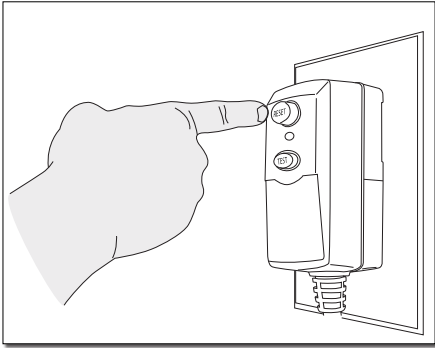

Fig.20
- Unwind the power cord completely and plug the GFCI into a grounded 120 volt outlet. Press the 'reset' button on the GFCI box (**Fig. 20**). The indicator window should show a red color. This must be done each time the unit is plugged in.